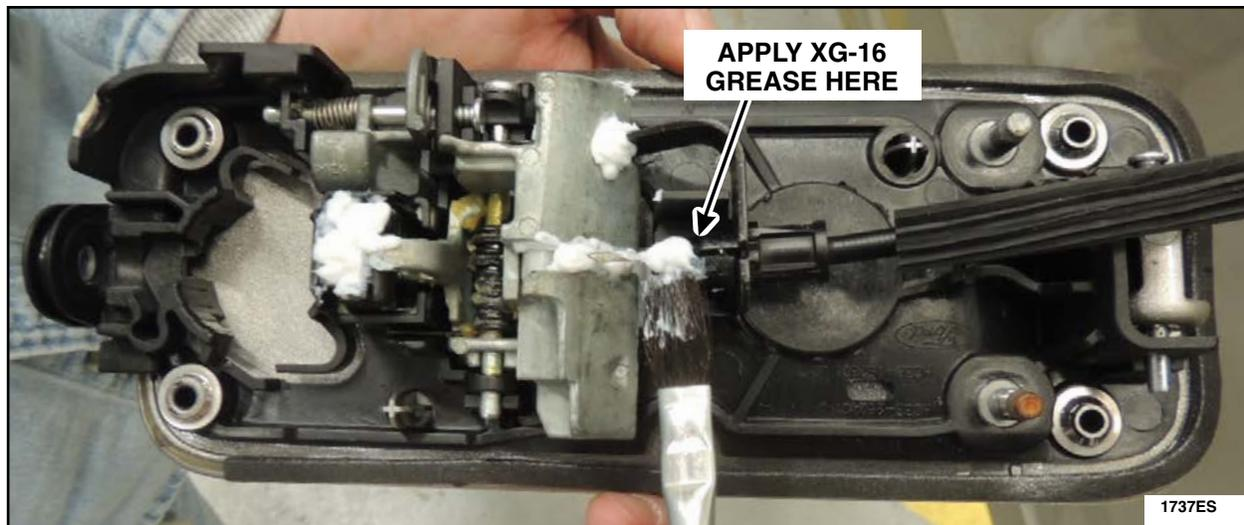

FIGURE 41
21. Reconnect the exterior door handle cable to the door handle, then lubricate the door handle cable end with Motorcraft® XG-16 grease, as shown in Figure 41.